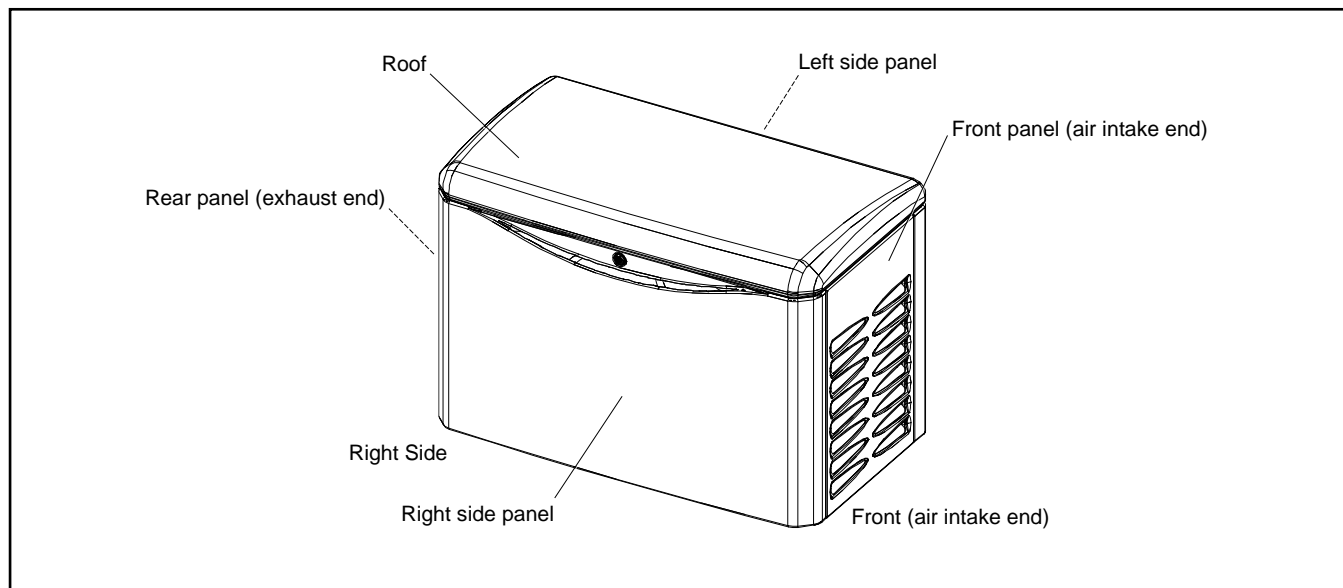

Figure 145 Generator Set Enclosure
24. Reinstall the remaining enclosure panels in reverse order of removal. See Figure 145 and refer to the disassembly instructions, if necessary.